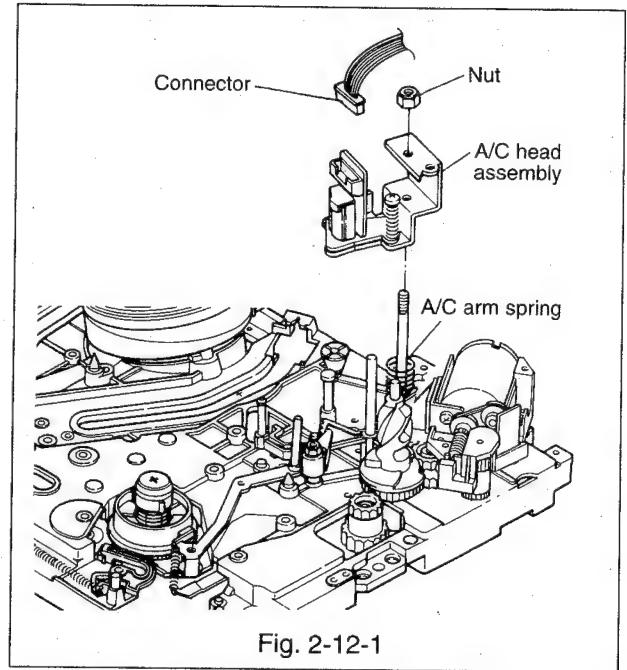

Fig. 2-12-1
2-12-1 Removal (Refer to Fig. 2-12-1, 2-12-2.)
- Disconnect the connector from the PCB A/C HEAD. (Refer to Fig. 2-12-1.)
2-12-2 Installation (Refer to Fig. 2-12-1~2-12-3.)
- Assemble the A/C head assembly to the shaft while turning the A/C arm spring counter-clockwise about 60°. (Refer to Fig. 2-12-1.)
- Plug in the connector to the PCB A/C HEAD. (Refer to Fig. 2-12-1.)